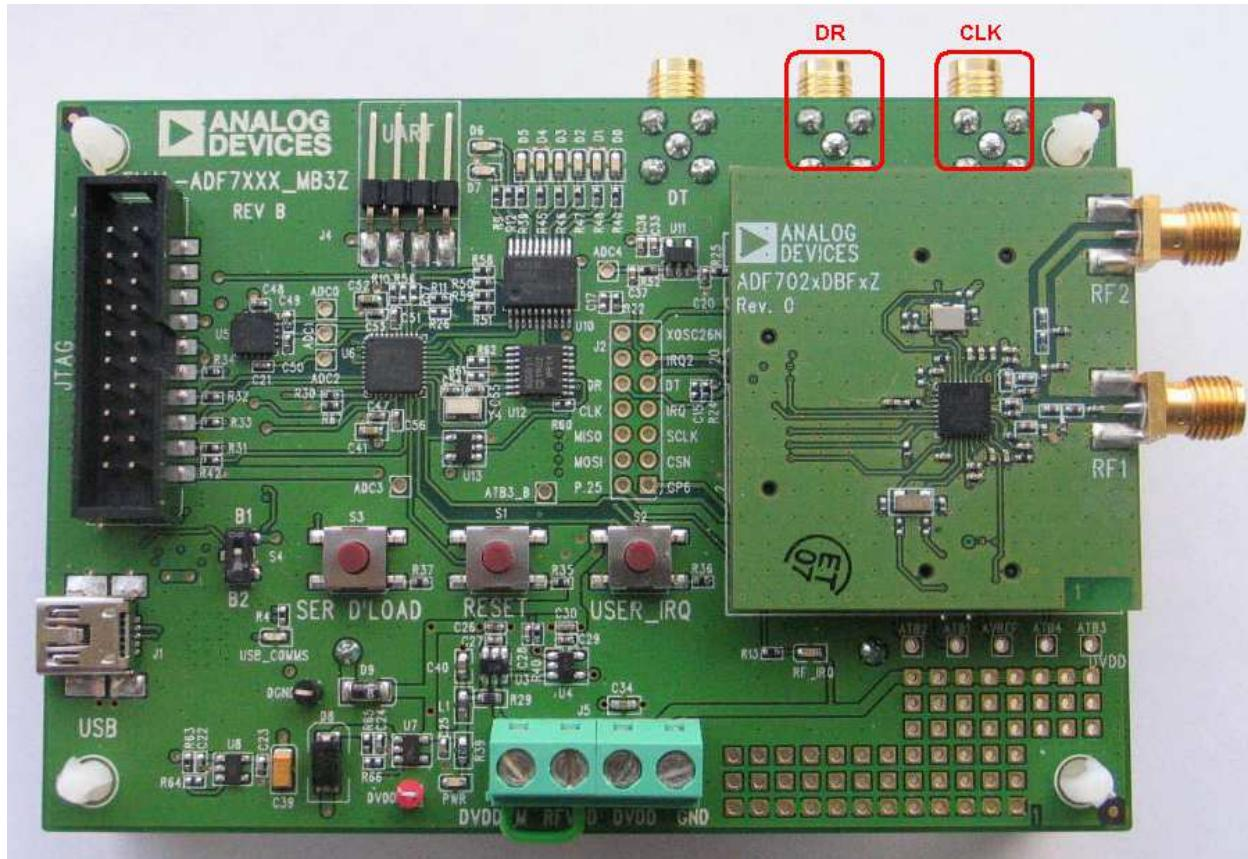

Figure 27
- While in **PHY_RX** with SPORT mode enabled, the received data demodulated by the ADF7023 will appear at the **DR** SMA connector on the mother board as shown in *Figure 27*
- A clock synchronized with the demodulated data will appear at the **CLK** SMA connector as shown in *Figure 27*.